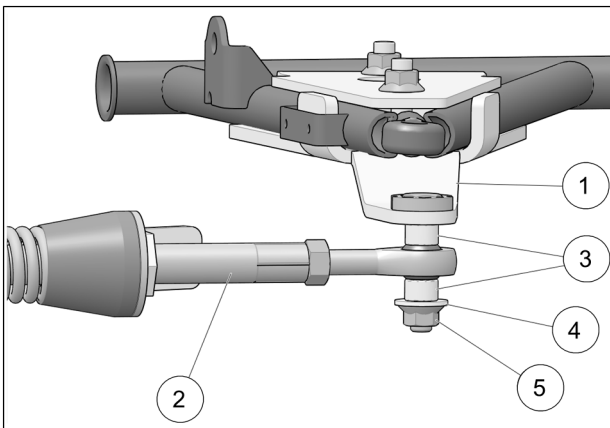

Fig. 19
- Attach the stabilizing rod (2) to the anchor bracket (1), using the two spacers (3), washer (4), and nut (5). Torque to 70 N•m [52 lb•ft]. Refer to Fig. 19